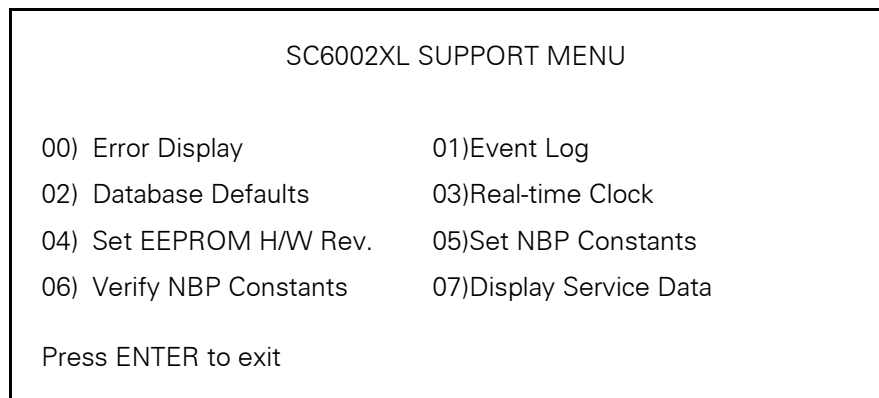

Figure 4-8 Support Menu (Item numbers may differ between versions of installed software.)
3. When "Enter Password" prompt displays, type in **7412** and press <Enter> to bring up SC6002XL SUPPORT MENU (See Figure 4-8).